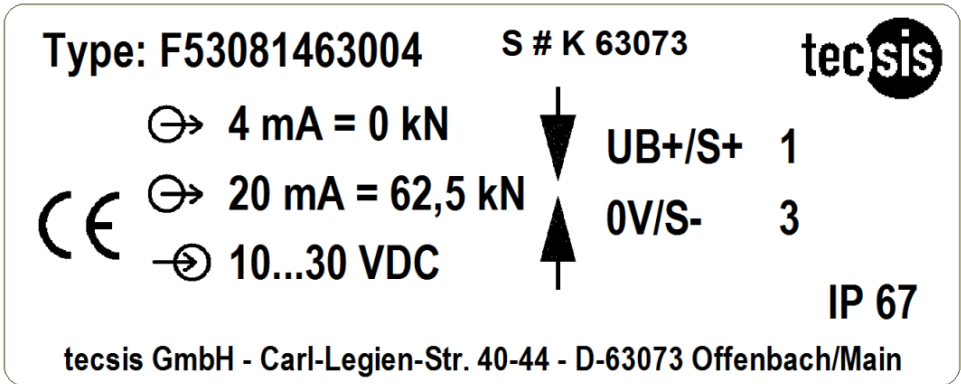

Fig. 1 Name plate standard version - 1x connecting plug – output signal 4...20 mA
- The output signal is noted on the name plate (Fig. 1 to 4, p. 33-34).
- The connection assignments are also noted on the name plate (Fig. 1 to 4, p. 33-34) and can also be found in the section entitled "Electrical connection". The polarity must be correct at all times.
The plug or cable connection assignments can be found on the name plate (Fig. 1 to 3, p. 33-34). Unless otherwise agreed, the following assignments are used as standard.